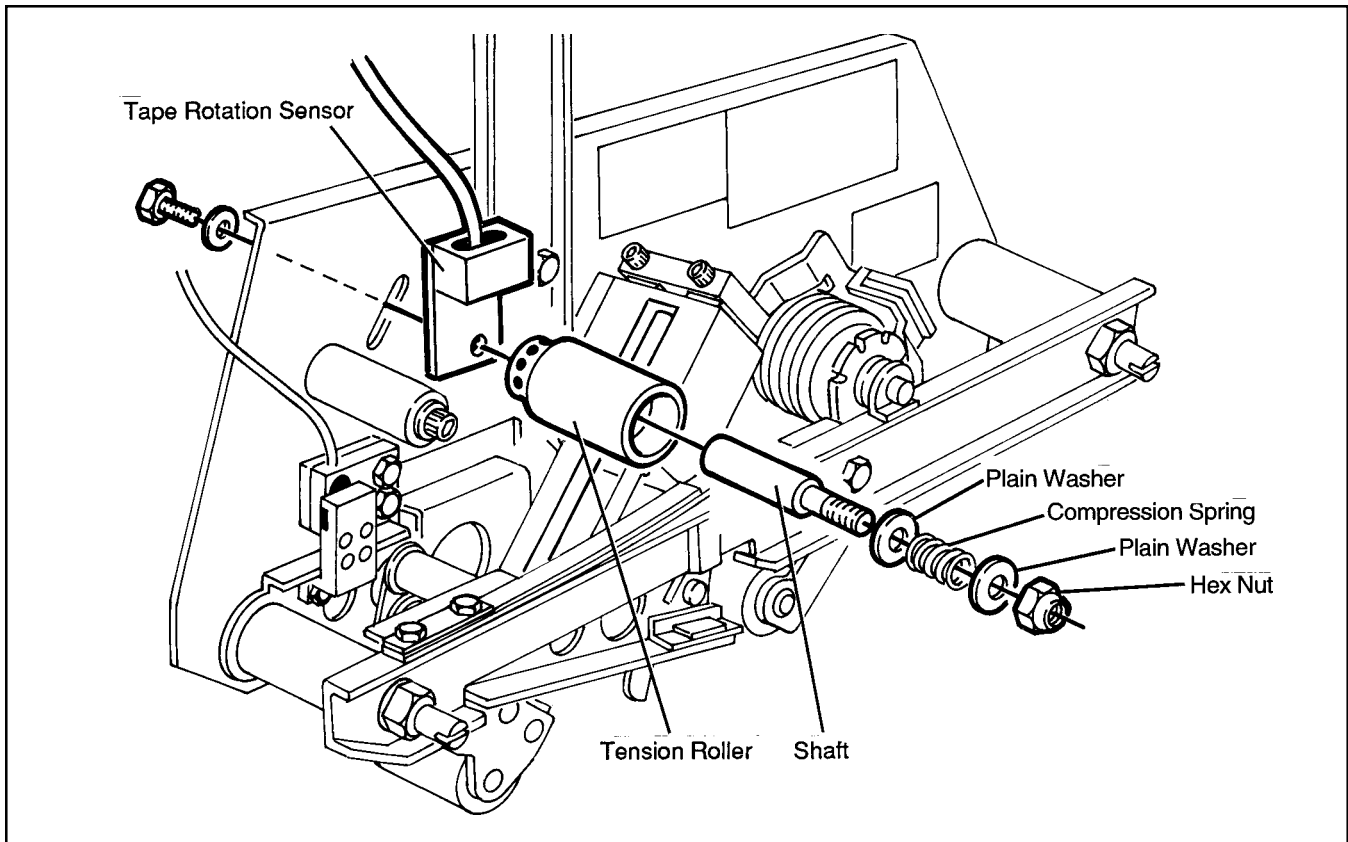

Figure 2-21
2. Install new parts from kit. Shaft, tension roller, washers, compression spring and hex nut and fasten to taping head side plate with M6 x 12 hex head screw and M6 plain washer. See Figure 2-21. Install tape rotation sensor between shaft and side plate with sensor cable pointed in same direction as box presence sensor.